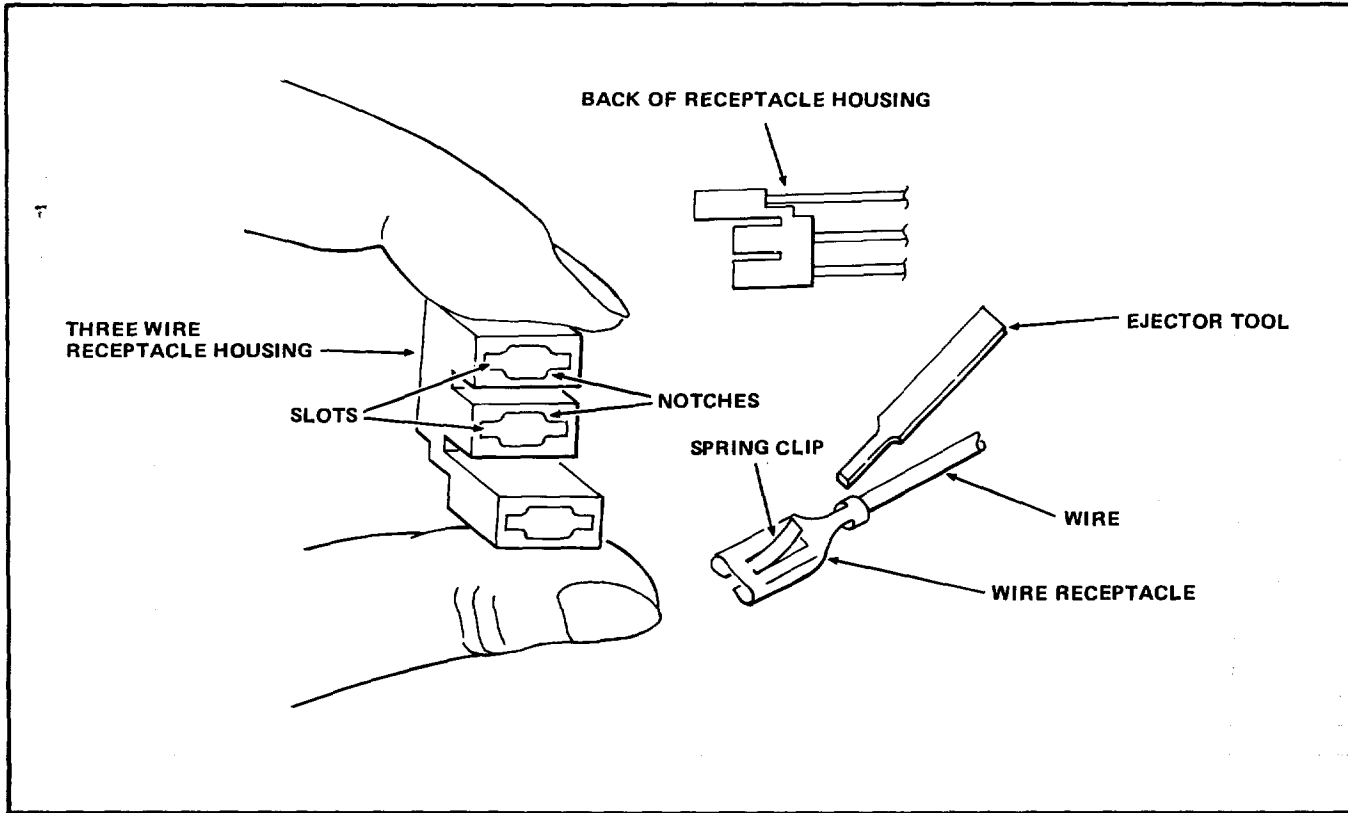

FIGURE 4
27. Insert the narrow end of the Ejector Tool included in the Kit, into the notch holding the Spring Clip on the black wire No.4 in the Receptacle Housing. Either notch may hold the Spring Clip. See Figure 4.
30. Insert the narrow end of the Ejector Tool under the Spring Clip on the black wire No.4 which was removed in step 29. See Figure 4.
31. Lift up on the wide end of the tool to raise the Spring Clip to the position shown in Figure 4.
32. Remove the tool and insert the black wire No.4 into the center slot in the three wire Receptacle Housing from which it was removed. See Figure 4.
35. Insert the narrow end of the Ejector Tool into the notch holding the Spring Clip on the black wire No.7 in the Receptacle Housing. Either notch may hold the Spring Clip. See Figure 4.
38. Insert the narrow end of the Ejector Tool into the notch holding the Spring Clip on the black wire No.28 in the Receptacle Housing. Either notch may hold the Spring Clip. See Figure 4.
41. Insert the narrow end of the tool under the Spring Clip on the black wire No.7 and lift-up on the wide end of the tool to raise the Spring Clip to the position shown in Figure 4.